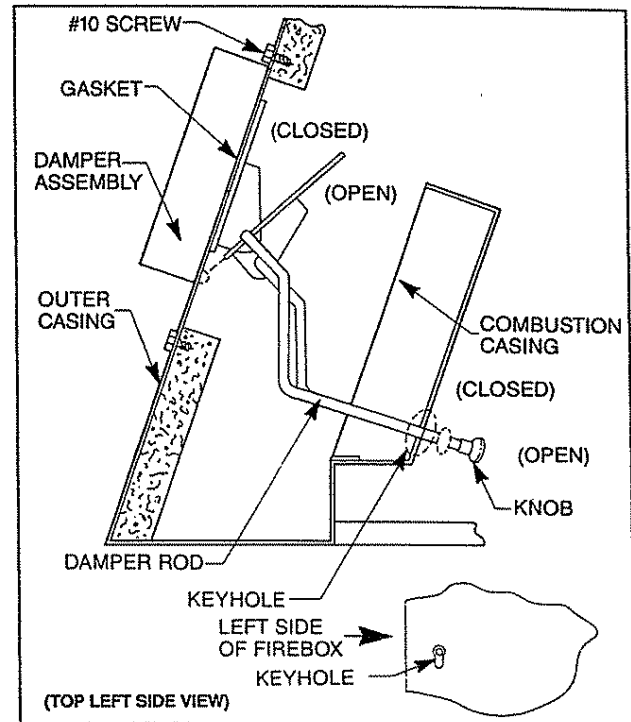

Fig. 17. Mounting damper assembly.
You are ready to install the damper assembly. Position the gasket to the backside of the damper assembly by inserting its damper rod through the keyhole in the bottom of the left side brick retainer. (See Fig. 17.) The damper assembly should be positioned so the damper blade swings freely in operation. When positioned properly, attach the damper assembly to the outer casing by aligning the four (4) mounting holes and securing with four (4) screws removed previously. Attach the knob to the threaded end of the damper rod.